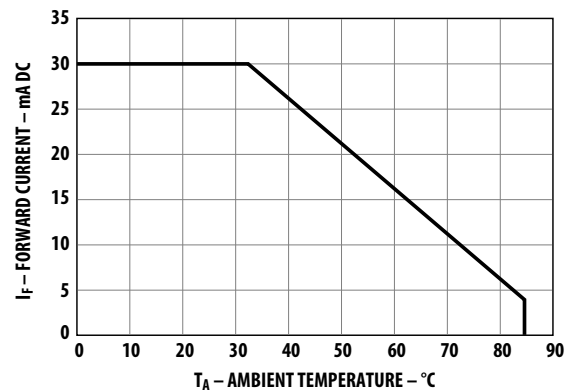

Figure 4. Maximum forward current vs. ambient temperature based on  $T_J \text{ max.} = 115^\circ\text{C}$
2. Derate linearly as shown in Figure 4.